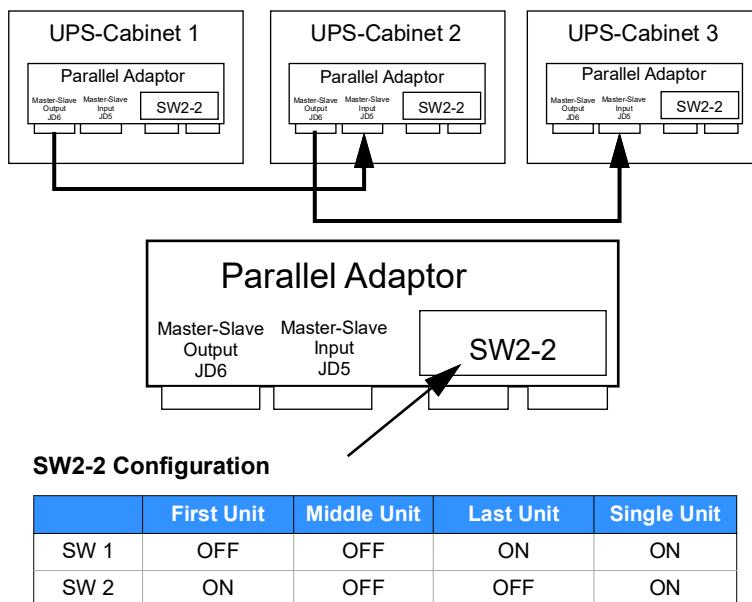

Figure 3.14 Bus-lines connections (3 Modules shown)
The communication bus cables are daisy-chained between each module, as shown below in Figure 3.14. Once the cables are fitted, each module must be configured according to its position in the parallel system.
3. Set DIP Switch SW2-2 on each Parallel Adaptor according to the UPS cabinet's position in the parallel configuration (see *Figure 3.14*).